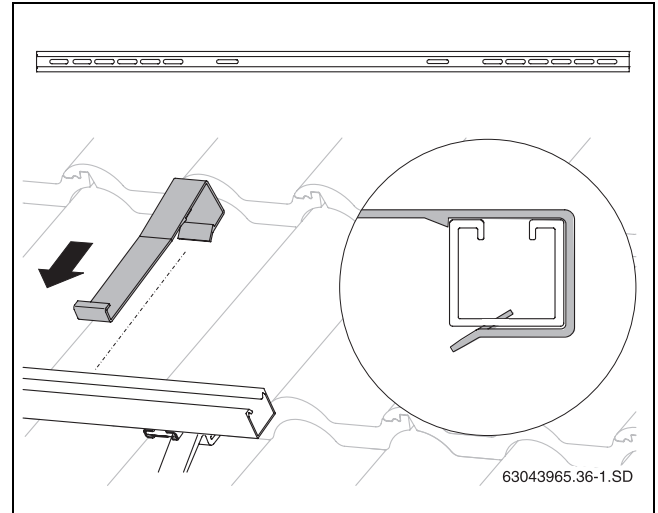

Fig. 30 Attaching anti-slip protection
- Push each anti-slip protector (Fig. 30, [3]) into the innermost slotted holes (Fig. 30, [1]) over the profile rails until it clicks into place (Fig. 30, [2]).